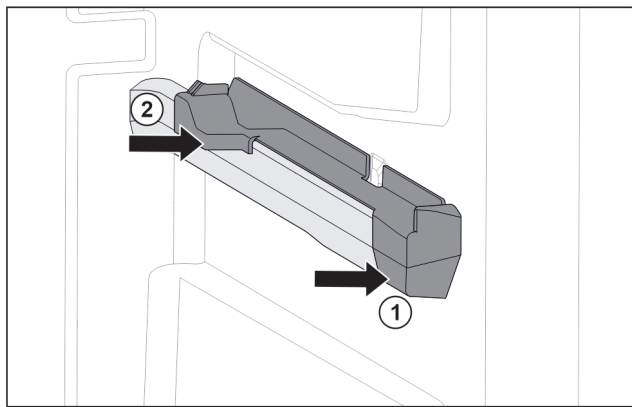

Fig. 124 Attachment on the right molded rib
- ▶ Position attachment on molded rib at the front. Fig. 124 (1)
- ▶ Press on attachment at the back. Fig. 124 (2)